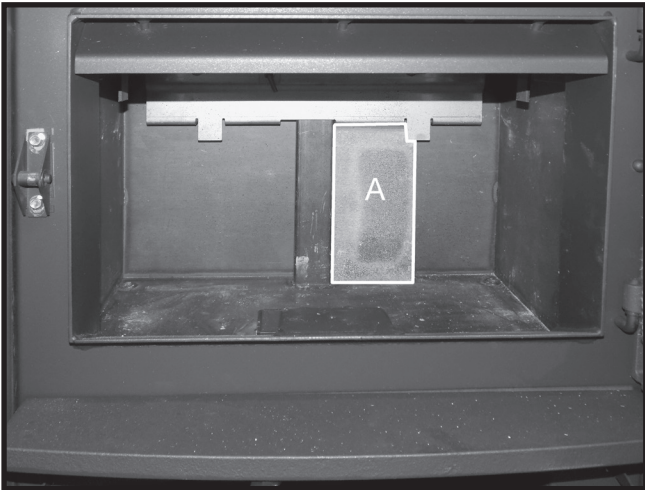

Figure 15: Installing the 1st of the rear wall firebricks.
1. Stand one "A" firebrick vertically behind the tab located on the brick rail. Slide the firebrick toward the center of the rear wall (Figure 15).